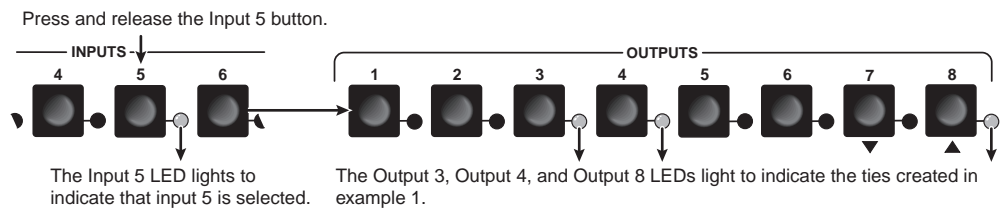

Figure 3-10 — Select an input
2. Press and release the Input 5 button (figure 3-10).